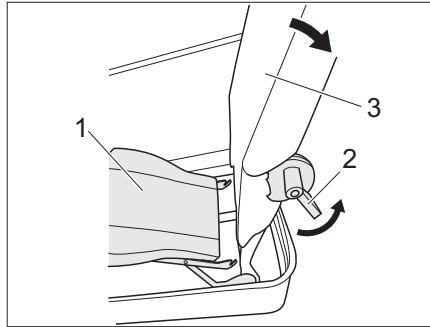
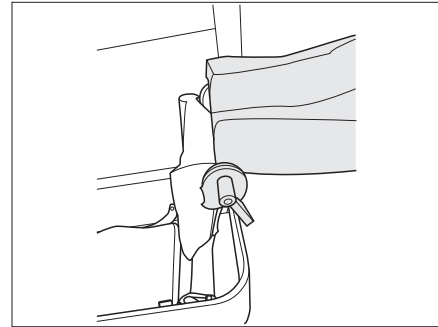

Fig. 223 Unhook the seat
Fig. 224 Turn seat back 90° to the rear
- Unlock (Fig. 223,1) the seat and move it downwards.
- Engage lever 1 (Fig. 223,2) and turn the seat back (Fig. 223,3) 90° towards the rear (Fig. 224).